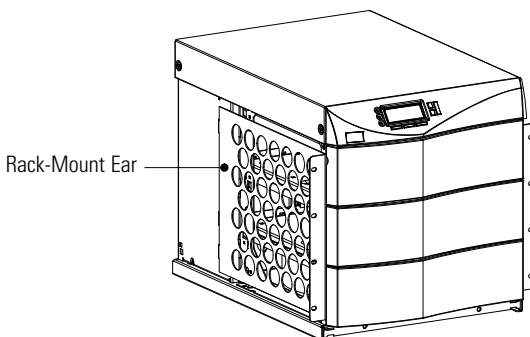

Figure 10. Rack-Mount Ear Installed
5. Install a rack-mount ear (two for 6-slot cabinets) on each side of the UPS cabinet (see Figure 10).